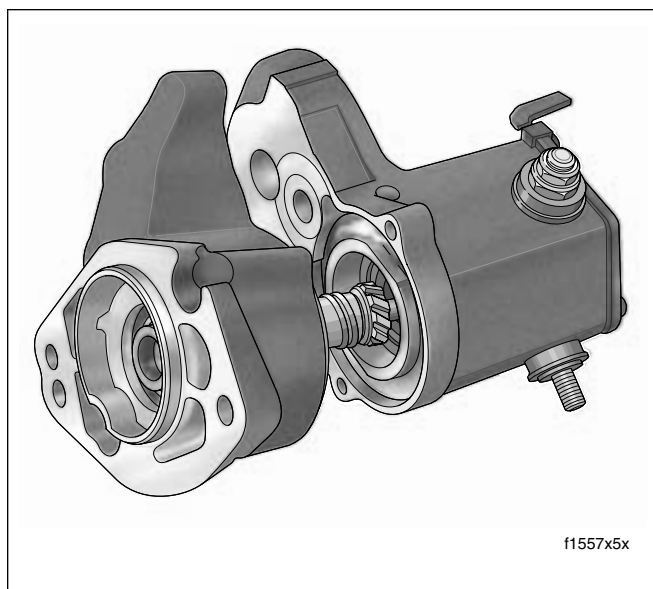

**Figure 5-16. Brush Holder Insulation Test**
15. See Figure 5-16. Test BRUSH HOLDER INSULATION with an ohmmeter or continuity tester. Touch one probe to holder plate and the other probe to each of the positive (insulated) brush holders. There should be no continuity (infinite ohms). If there is continuity at either brush holder, the brush holder assembly should be replaced. Touch one probe to the non-insulated brush holders and the other probe to the holder plate. If you measure any resistance, the brush holder must be replaced.